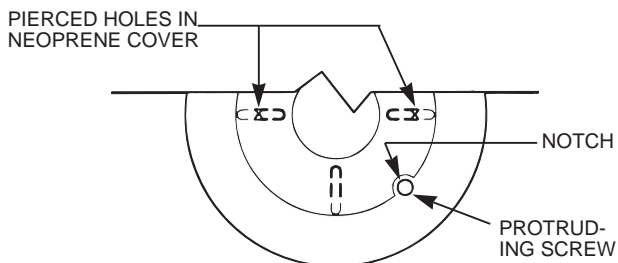
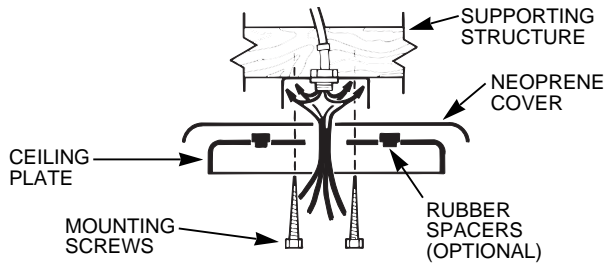

FIGURE 3
FIGURE 4
**A.** Lay the neoprene cover over the ceiling plate. Orient so the notch is aligned with the ground screw which protrudes through the ceiling plate. See Figure 3. Pierce holes in the neoprene through the slots in the ceiling plate at a spacing to match the holes in the outlet box. Use the mounting screws to secure the ceiling plate and neoprene cover to the outlet box. See Figure 4.
**B.** If the fan is installed **against a ceiling**, insert the three rubber spacers into the three round holes provided in the ceiling plate. Locate the spacers between the ceiling plate and the neoprene cover. See Figure 4.